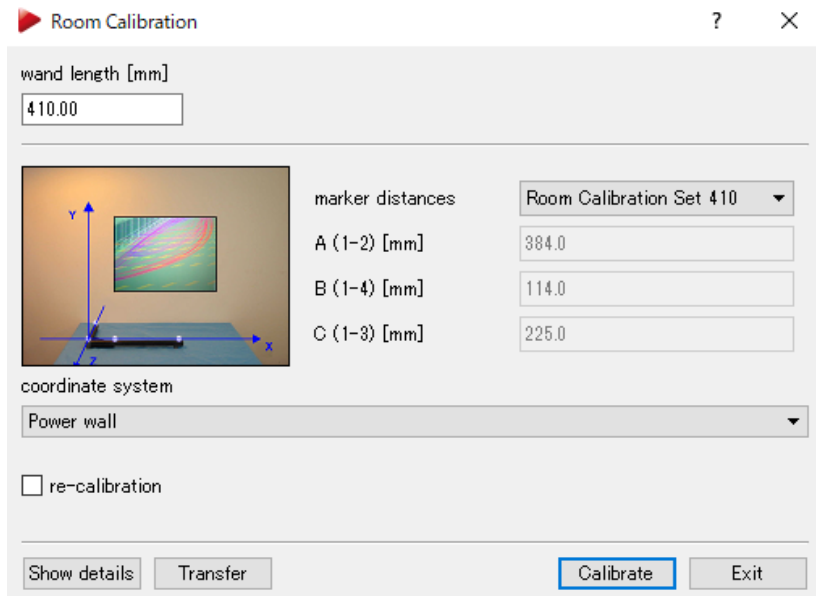

Figure 6 – Dtrack’s room calibration offers two coordinate system options. For our application Power wall is the correct configuration.
1. Make sure that your ART room calibration is configured to "Power wall" in DTrack as shown in Figure 6. In this case the "axisPermutation" should be set to "xyz" in the "absoluteSources" block of the LPVR configuration file.
- While screwing the screws into the pods, make sure that you stay in the correct direction to ensure maximal stability post-assembly. Fig. 6 shows the complete assembled holder.